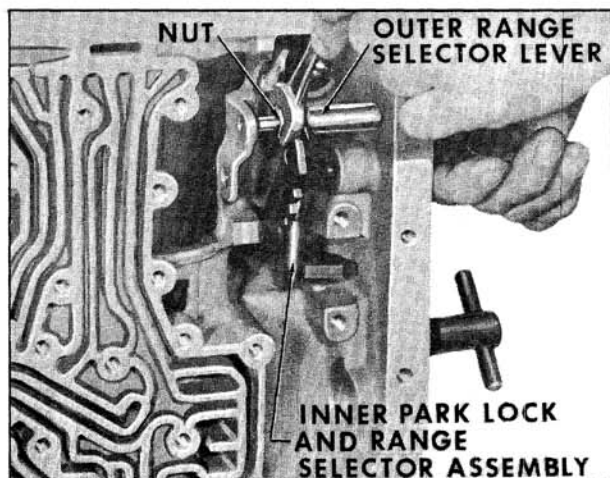

Fig. 6-484 Installing Outer Range Selector Lever
5. Slide outer range selector lever into case and tighten nut using a 9/16" wrench. (Fig. 6-484)